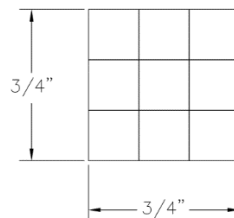

Figure 6
11. The bridge shall be constructed of members with a width and height not to exceed 0.635 cm (1/4 inch). Teams may attach member to one another to create a “built-up” member. Maximum built-up are 3/4”, excluding the roadway width. The members MUST be made out of Balsa wood not Basswood, be sure to check your material. See Figure 6